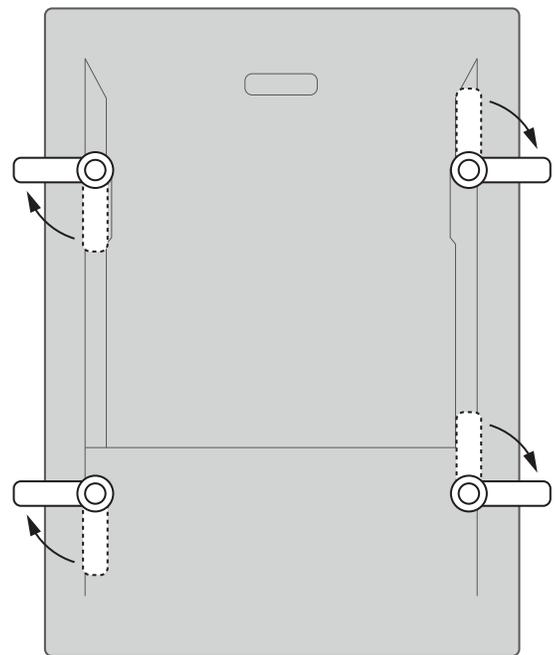

Figure 4
3. Make sure the four mounting feet are turned inward to clear the opening, and insert the speaker into the wall. Position the speaker into the hole. **NOTE:** The flange of the speaker is designed to flex and conform to any small imperfections in the wall's surface. Tighten the four screws on the front of the baffle only enough to make the flange become snug against the wall. As you tighten the screws, the feet will automatically flip into an outward position (Figure 4), thereby clamping the drywall between the feet and the flange. **CAUTION:** Over tightening may warp the baffle, crack the wall, and cause the flange to distort.